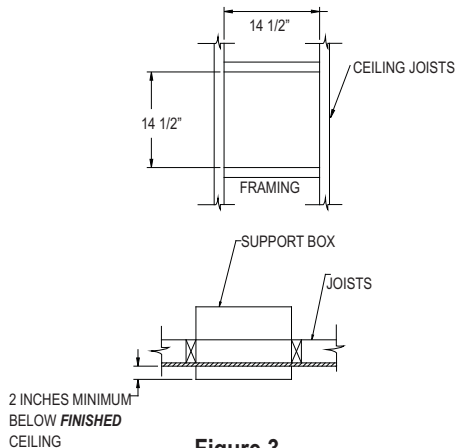

Figure 3
2. Frame Support Opening: Drop a plumb bob to the center of the appliance's flue outlet and mark this center point on the ceiling. Refer to Table 2 for specific framing and clearance dimensions. Mark appropriate cutting lines around the center point. Cut a square hole in the ceiling for a Square Support Box, or a round hole for a Round Support Box. Frame a level, square opening centered over the hole which you have cut. **(Figures 3 and 4).**